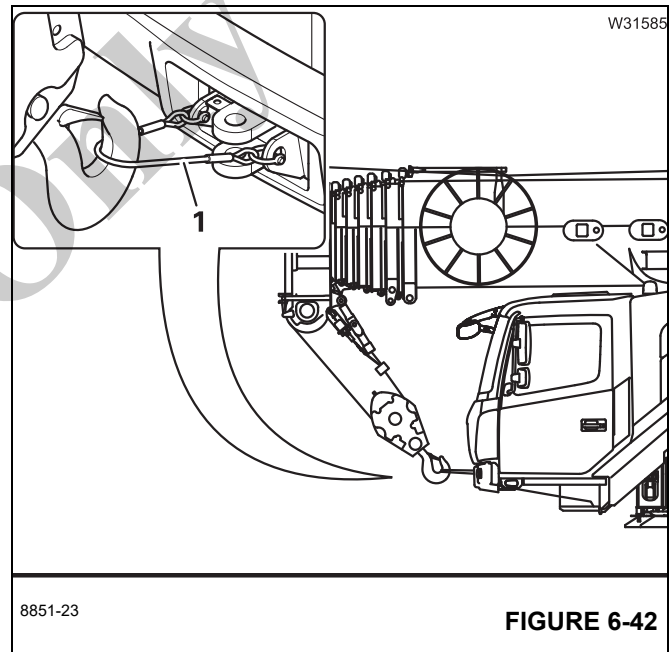

FIGURE 6-42
- Detach the hook block from the retaining rope (1), (Figure 6-42).
- Lower the hook block and attach the hook block to the retaining rope (1), (Figure 6-42).
- Raise the hook block vertically above the retaining rope (1), (Figure 6-42).